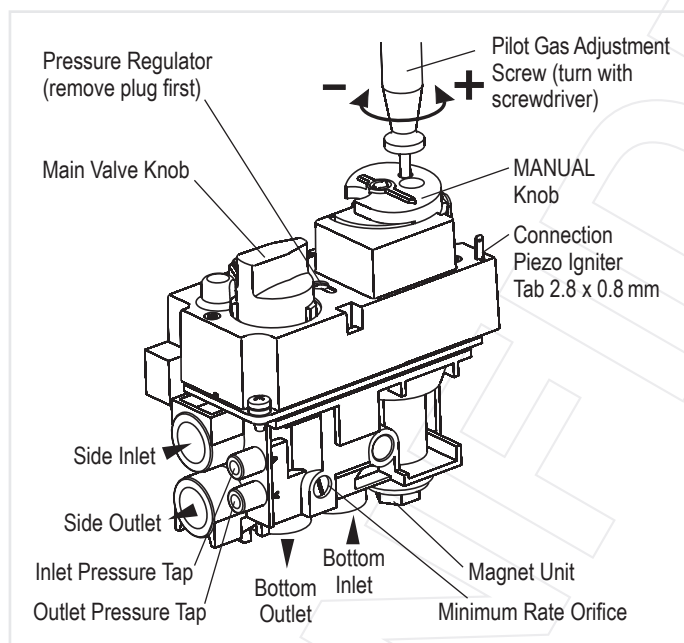

Figure 15: GV60, Connections and Adjustment Options
Gas control knobs function as follows (see figure 15):
1. The adjustment screw can be reached through a hole in the MANUAL knob (see figure 15).